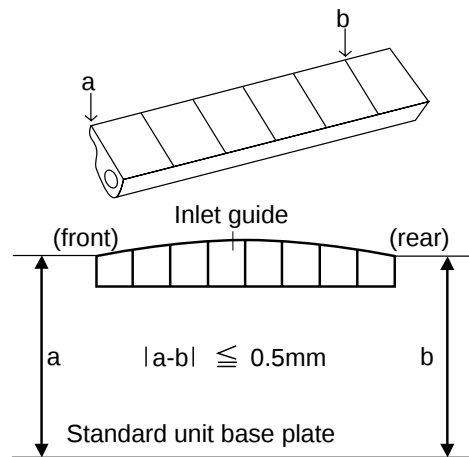

Figure 10-244
- See Figure 10-244 for the position of the guide.